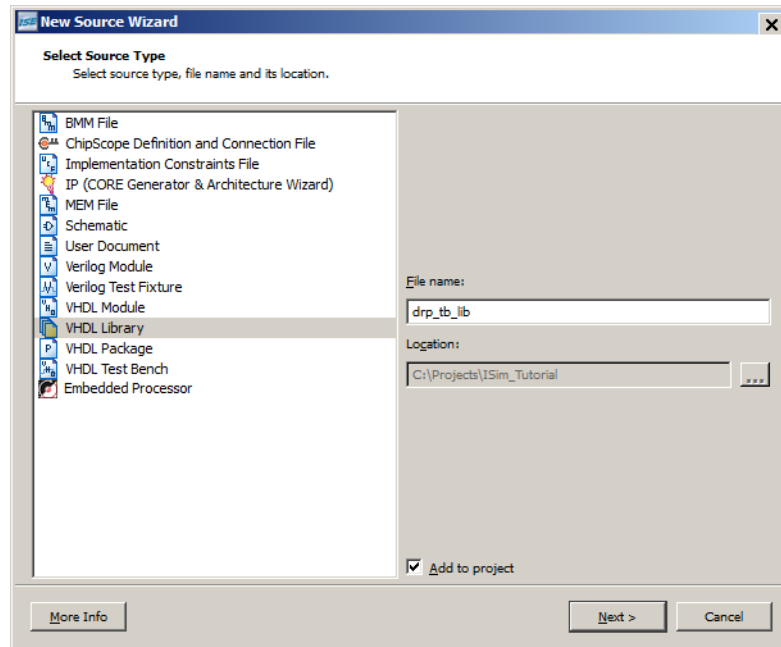

Figure 2-4: Select Source Type
3. Type **`drp_tb_lib`** for the VHDL library name. (Refer to Figure 2-4, page 15).